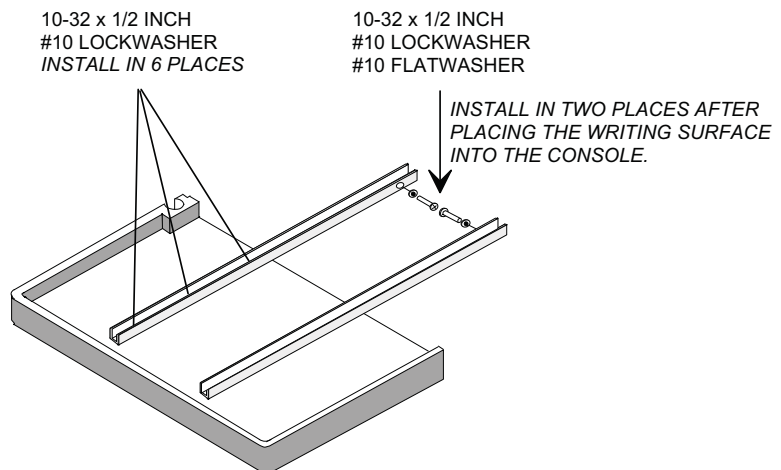

Figure 13-1. Console Table
- Step 4.* Attach the mounting rails to the table as shown in Figure 13-1.